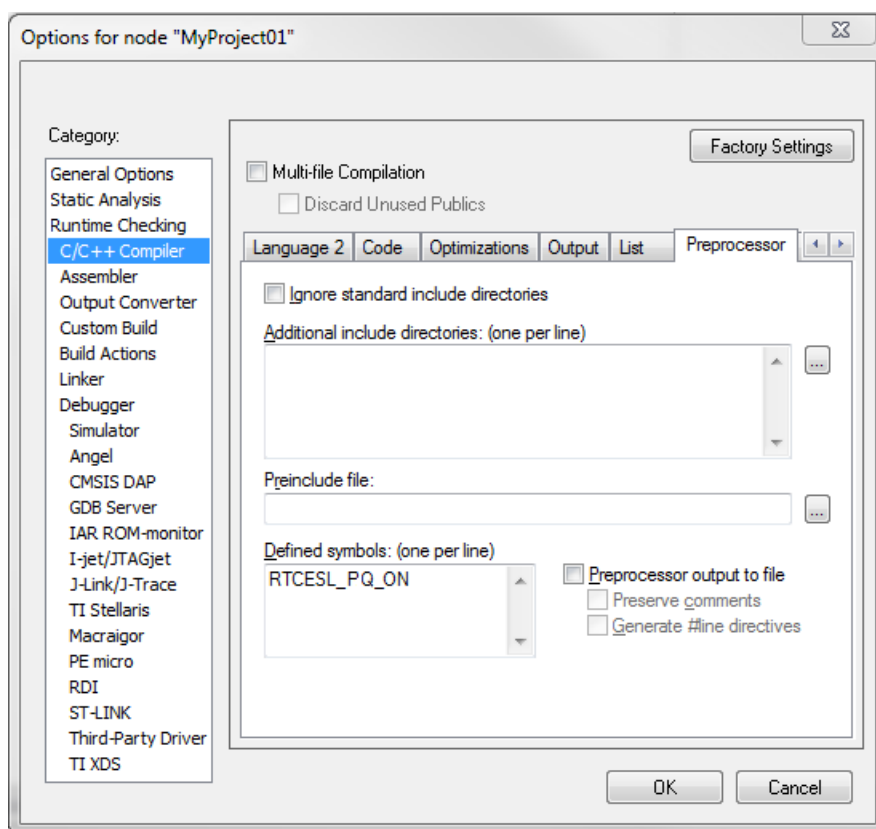

Figure 1-40. Defined symbols
4. In the text box (at the Defined symbols: (one per line)), type the following (See Figure 1-40):